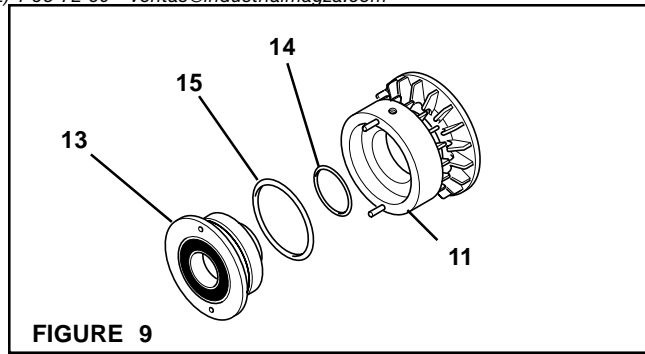

FIGURE 9
13. Clean the O-ring Seal contact surfaces of the Piston (Item 13) and Cylinder (Item 11) with fresh safety solvent (See Figure 9).
14. Coat the new O-ring Seals (Items 14 and 15) and the O-ring Seal contact surfaces of the Piston (Item 13) and Cylinder (Item 11) with fresh O-ring lubricant (See Figure 9).
15. Install the new O-ring Seals (Items 14 and 15) onto the Piston (Item 13); then, wipe off any excess O-ring lubricant (See Figure 9).
16. Slide the Piston (Item 13) into the Cylinder (Item 11) (See Figure 9).